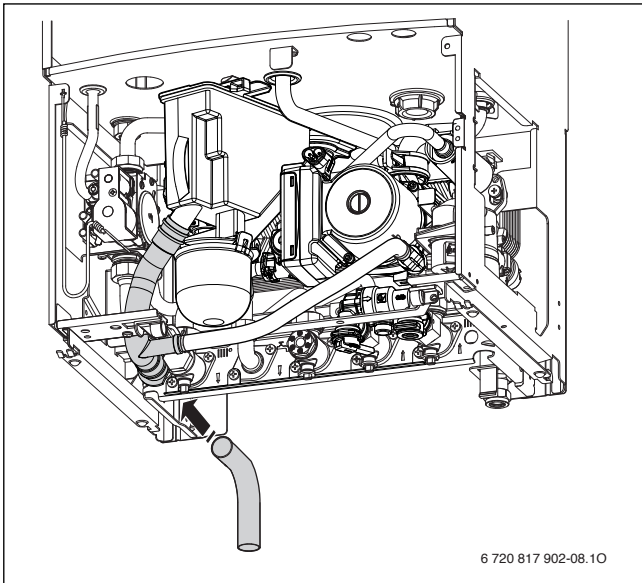

Fig. 21
- ▶ Connect the rubber siphon drain hose over the plastic drain pipe (→ Fig 21).